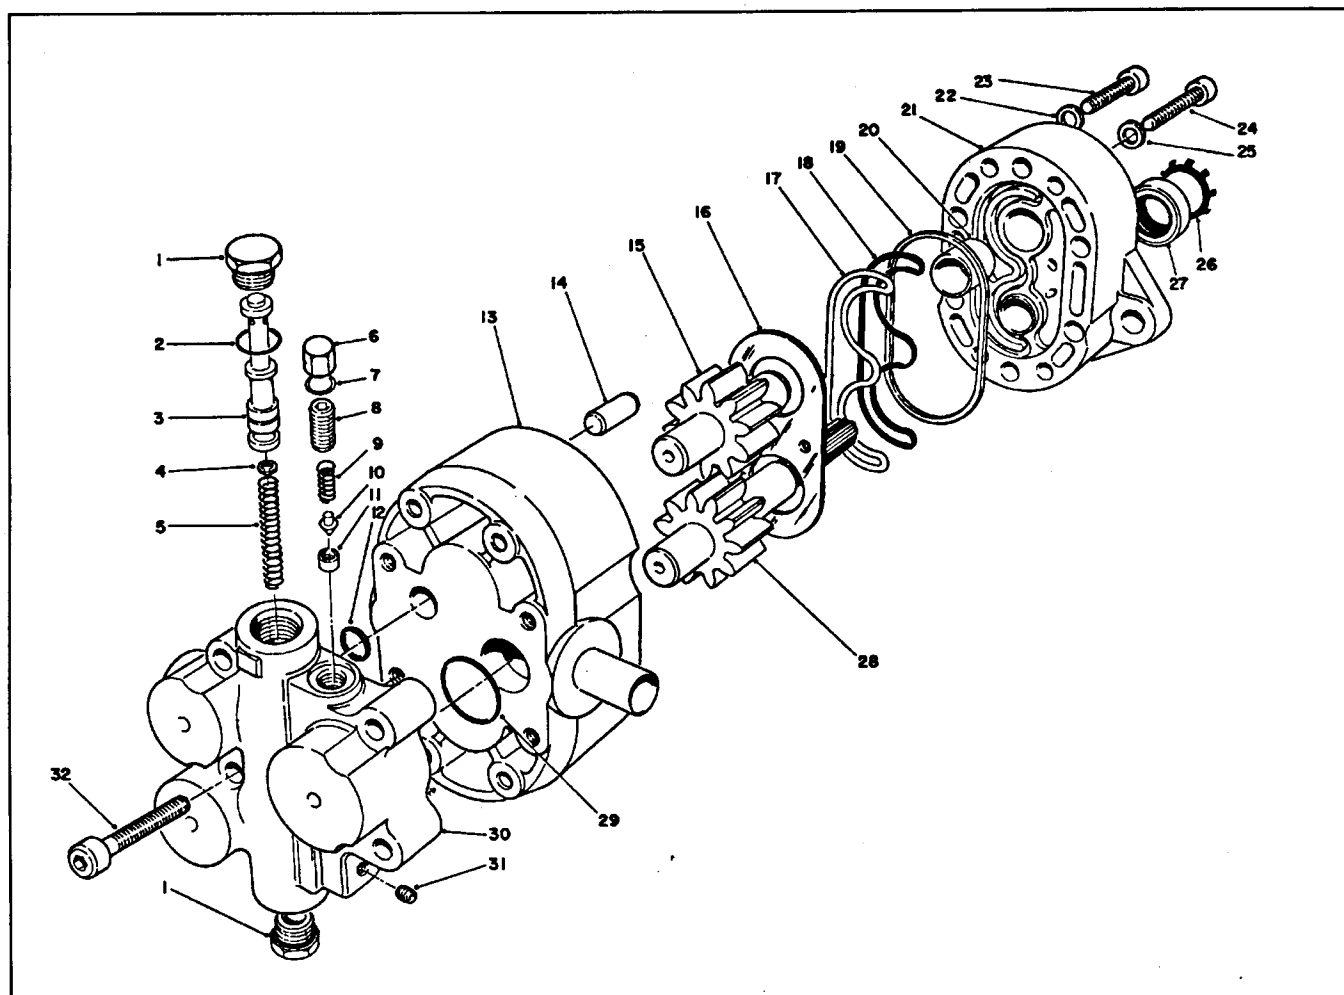

Figure 40
1. Refer to illustration to disassemble, inspect, and assemble the flow divider cover (Fig. 40).